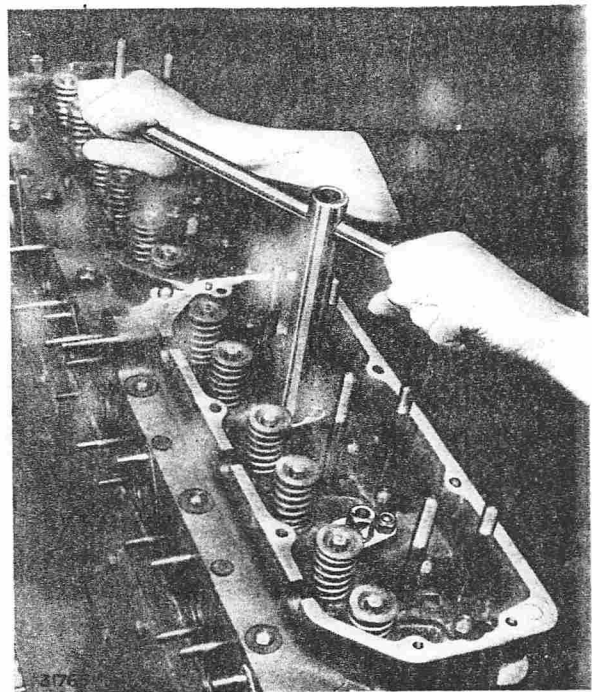

FIG. 6. TIGHTENING LIFTING NUTS
6. Remove all cylinder head nuts and raise the heads by unscrewing the special lifting nuts (see Fig. 6). Two lifting nuts are provided for each of the heads to prevent damage to the gaskets when lifting. Both nuts should be screwed evenly as far as they will go, then lift the head off the studs. If the heads are tight on the studs, a further lift can be obtained by screwing long $\frac{1}{2}$ in. B.S.F. bolts into the lifting nuts.